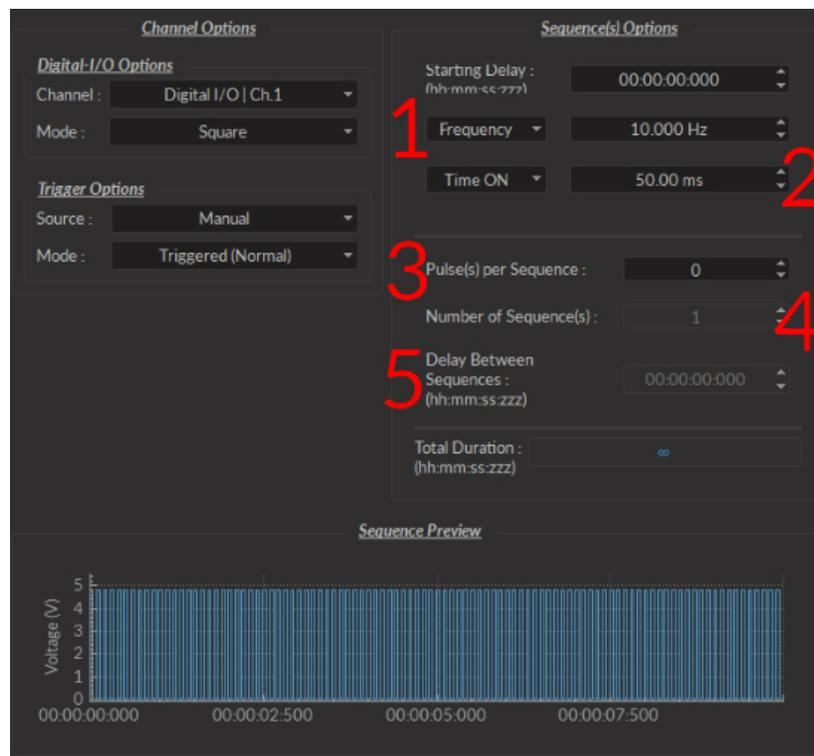

Figure 3.9: Channel(s) configuration window, Digital I/O square
- The **Square** channel mode (Fig. 3.9) allows the creation of a square TTL pulse sequence. This includes all sequence options as the **CW** mode, with the following additions.